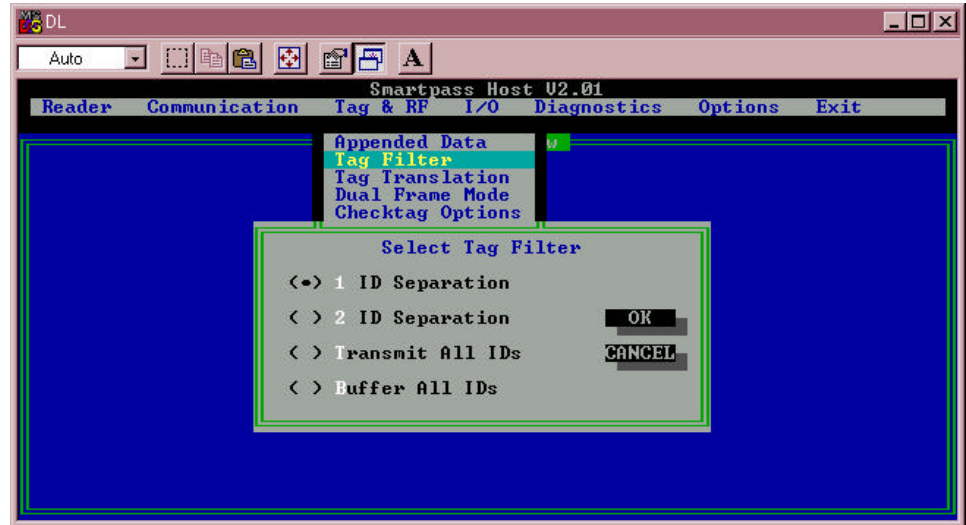

Figure 4-12 Select Tag Filter Dialog Box
1. Select the **Tag & RF** drop-down menu and click on **Tag Filter**. Figure 4-12 illustrates the options for appending information to tag data.